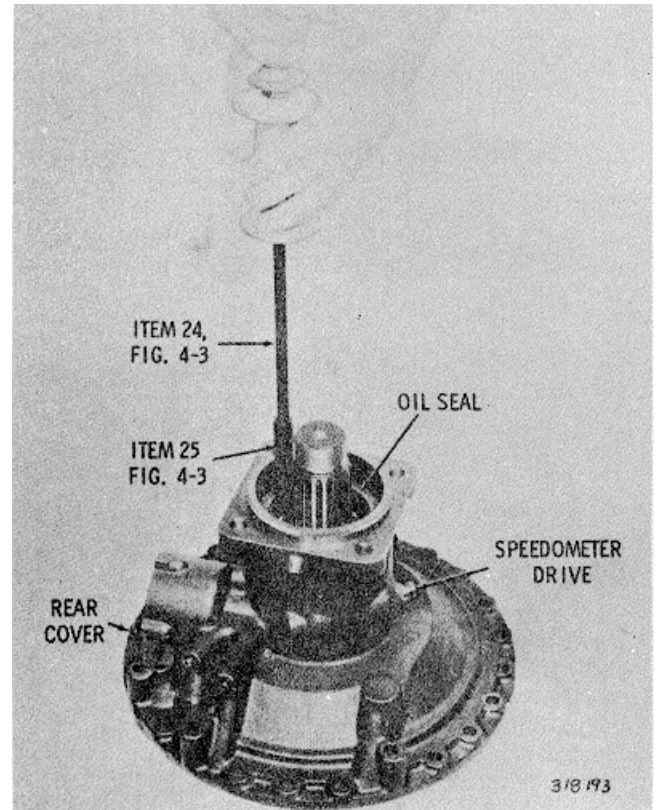

Fig. 6-50 Removing output shaft rear oil seal
- (2) Using remover 24 (fig. 4-3), remove the output shaft oil seal from the rear cover (fig. 6-50).
- (3) Remove the speedometer drive components from the rear cover (fig. 6-50).
(16) Install the speedometer drive components (Fig. 6-50).